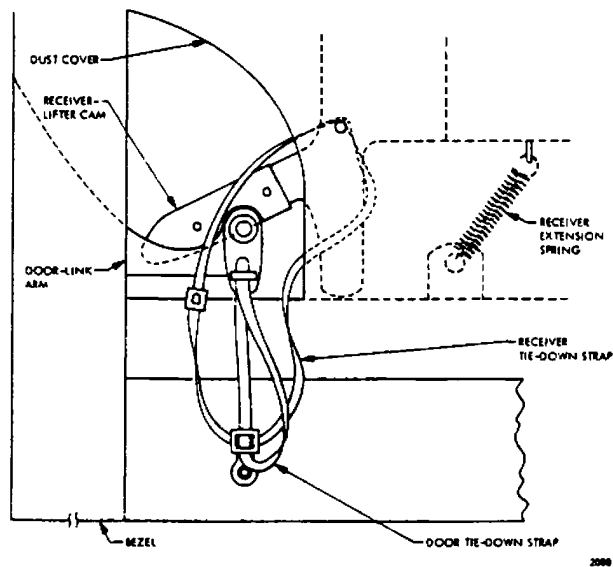

Figure 2-1. Cartridge Receiver and Front Door Shipping Restraint
- (v) Remove the two tie-down straps used to secure the front door and cartridge receiver during shipment. Figure 2-1 shows the relationship of these restraints to the shipping frame and disk drive.